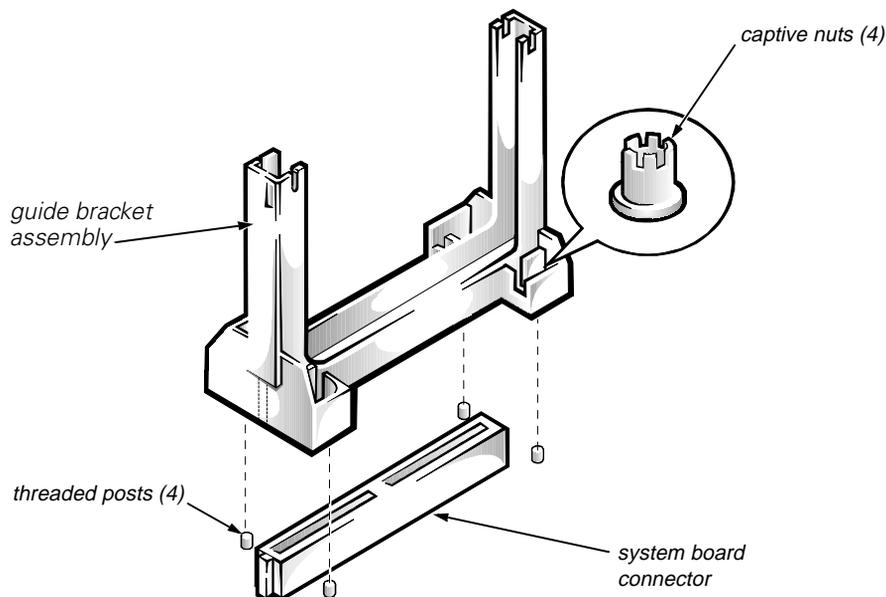

Figure 2. Removing the Guide Bracket Assembly
3. Using a #2 Phillips screwdriver, loosen the four captive nuts that secure the guide bracket assembly to the system board (see Figure 2).